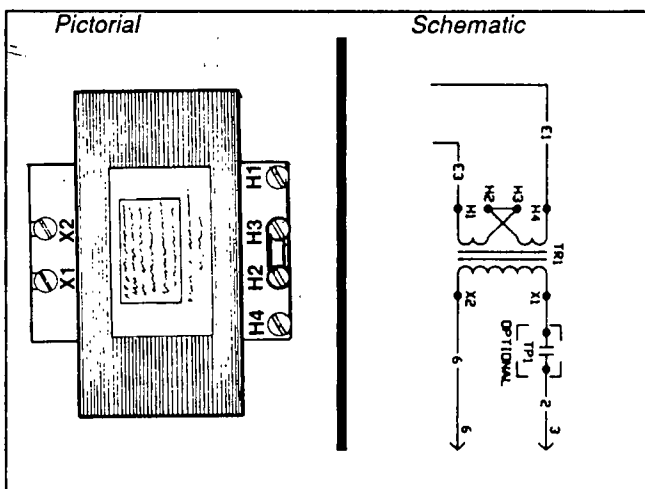
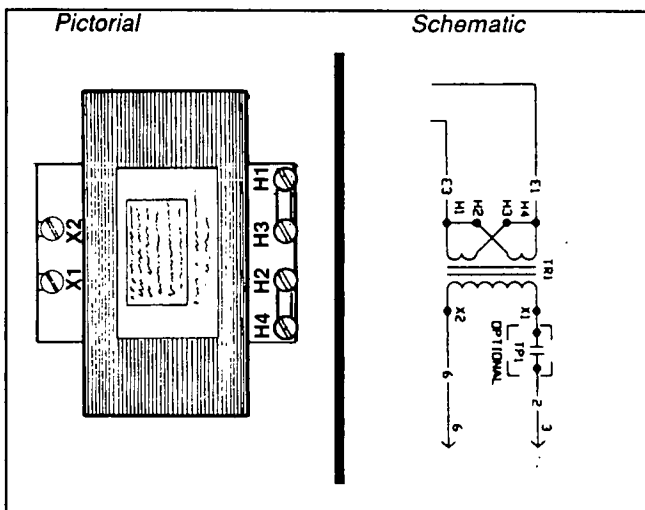

Figure 9. High Voltage Transformer Connections
Figure 10. Low Voltage Transformer Connections
See Figure 9. The transformer's primary coils are connected in series for high voltage stators. For low voltage stators, the primary coils must be connected in parallel (Figure 10).
3. On the regulator (Figure 10), set the adjustment potentiometers as follows: